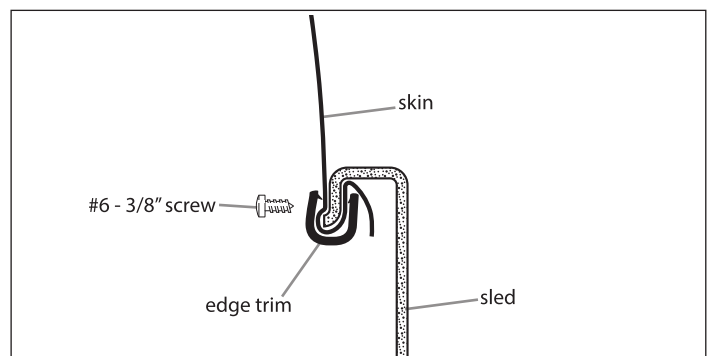

FIGURE 18
25. Pull the skin taut and push the edge trim over the lip of the sled with the shelter skin between the two. It is important to keep the skin taut and work the edge trim evenly around both sides of the shelter until all edge trim is in place. **SEE FIGURE 18 (see next page)**
26. Secure the edge trim in place using the #6 x 3/8" sheet metal screws provided. A cordless drill and Phillips head bit is recommended for this step, but is not necessary. **SEE FIGURE 18 (see next page)**